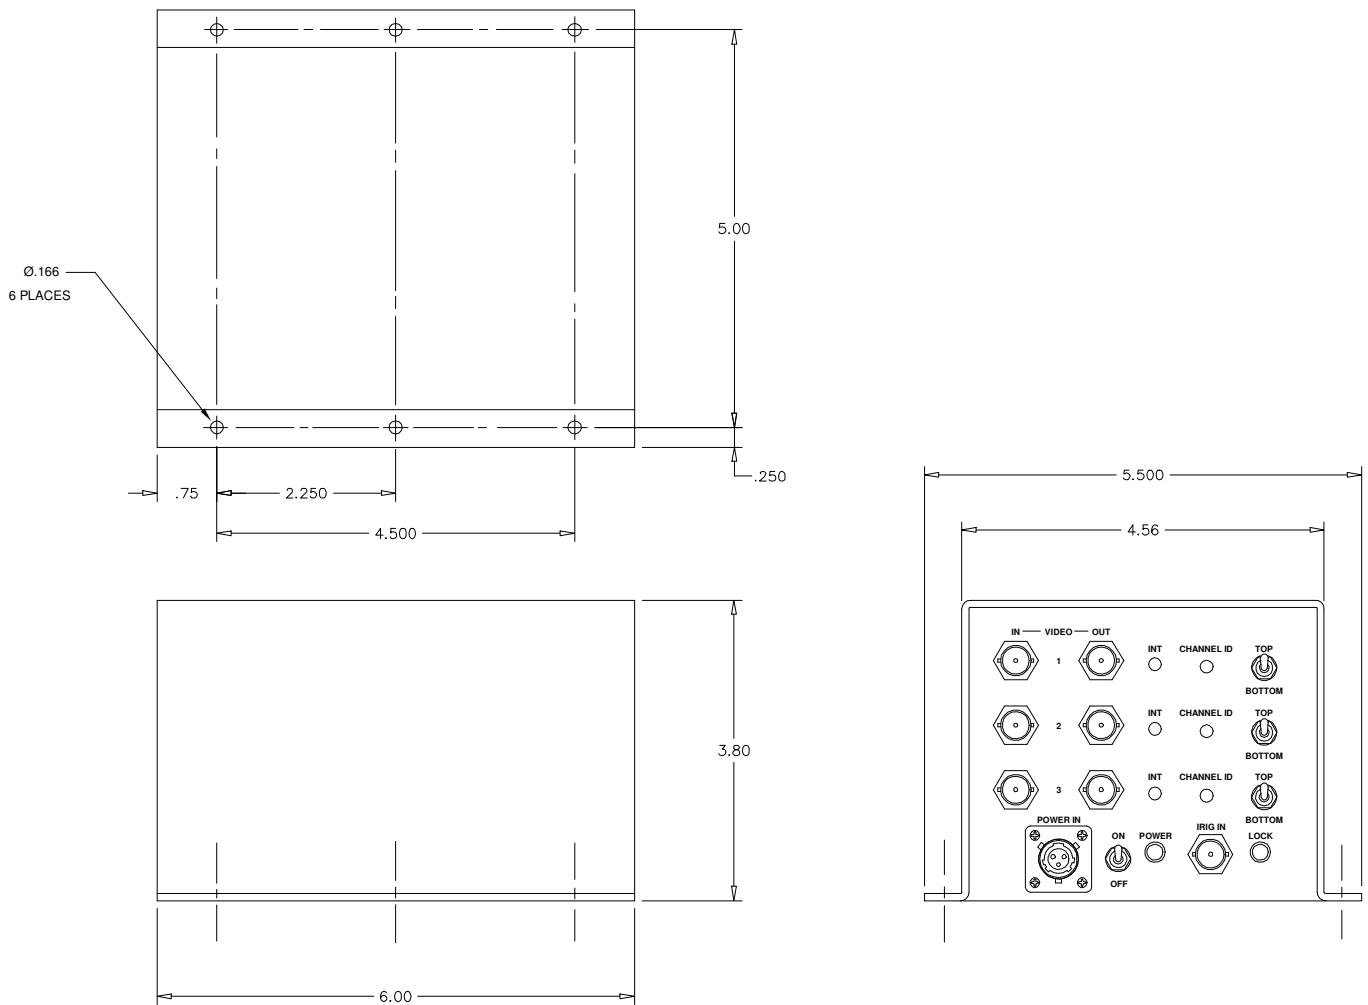

Figure 1
4.0 CONTROLS, INDICATORS, AND CONNECTORS (See Figure 1)